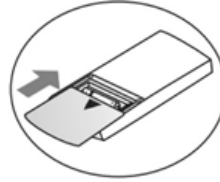

Fig.3
- Put back the cover according to the direction indicated by the arrowhead (Fig.3)